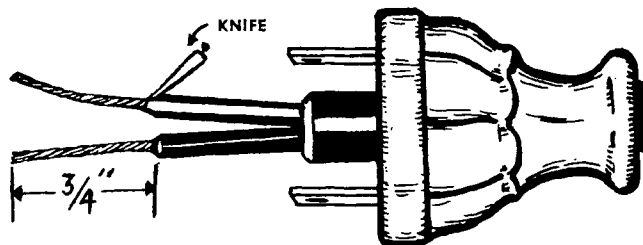

Figure 1 (Ready to Wire Plug)
3. Pass one end of the new cord through the center of the plug. Strip 2 inches of the fabric insulation off cord, or in case of a rubber cord, split cord back two inches. Be sure no bare wire shows in long split section (Figure 1).
4. Use knife to strip insulation off wire for 3/4" on end of each cord. Be careful. Don't cut yourself. Don't cut wires. Use a light touch, slope the knifeblade and slice with knife edge away from you (Figure 1).